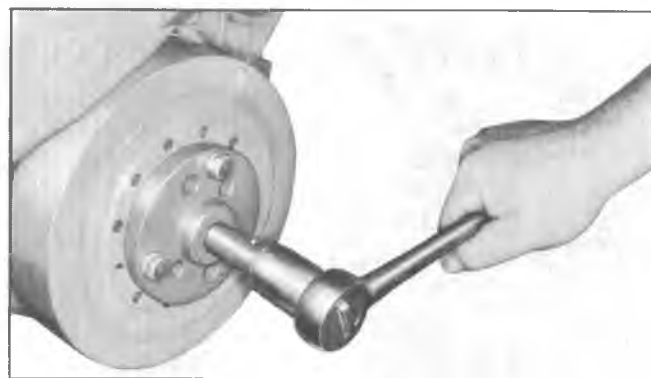

Fig. 9V—Removing Torsional Damper
4. Install Tool J-23523 on damper then, turning puller screw, remove damper (fig. 9V).